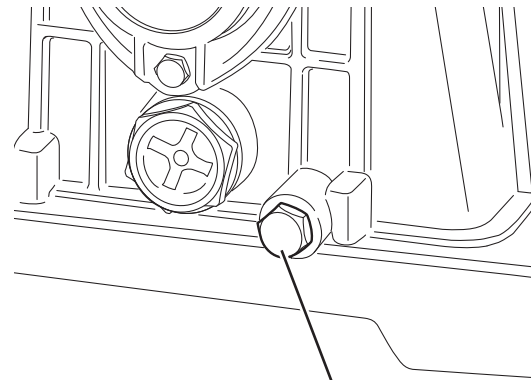

Fig. 14
- (1) Within the first 50 hours of operation, completely replace the oil of the pumping element. Unfasten the pump oil cock on the crankcase, drain all the oil, and screw the cock back on (Refer to Fig. 1 and to Fig. 14).